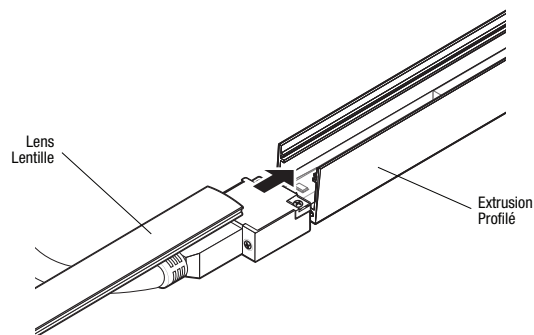

Fig. 6.2
3. Slide the lens into place (Fig. 6.2).
3. Glisser la lentille en place (Fig. 6.2).